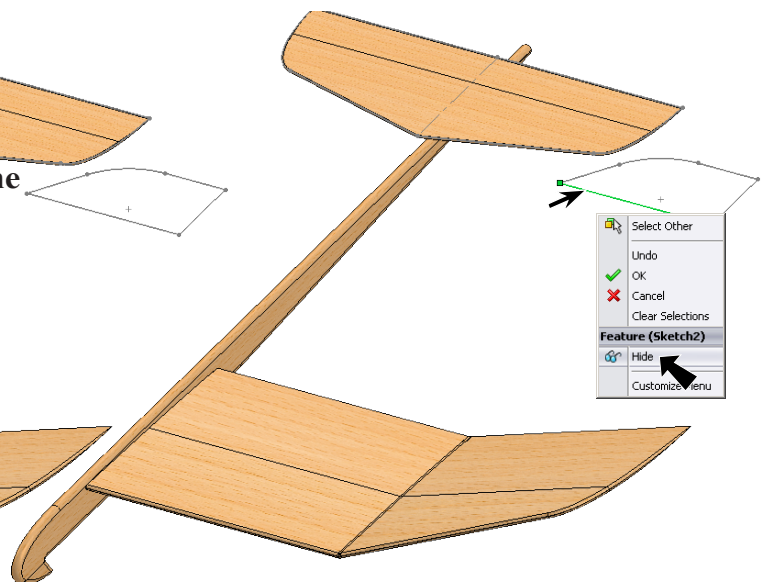

Fig. 56
Step 6. **Right click Sketch2** in graphics area and click **Hide**  on the Content menu, **Fig. 56**.